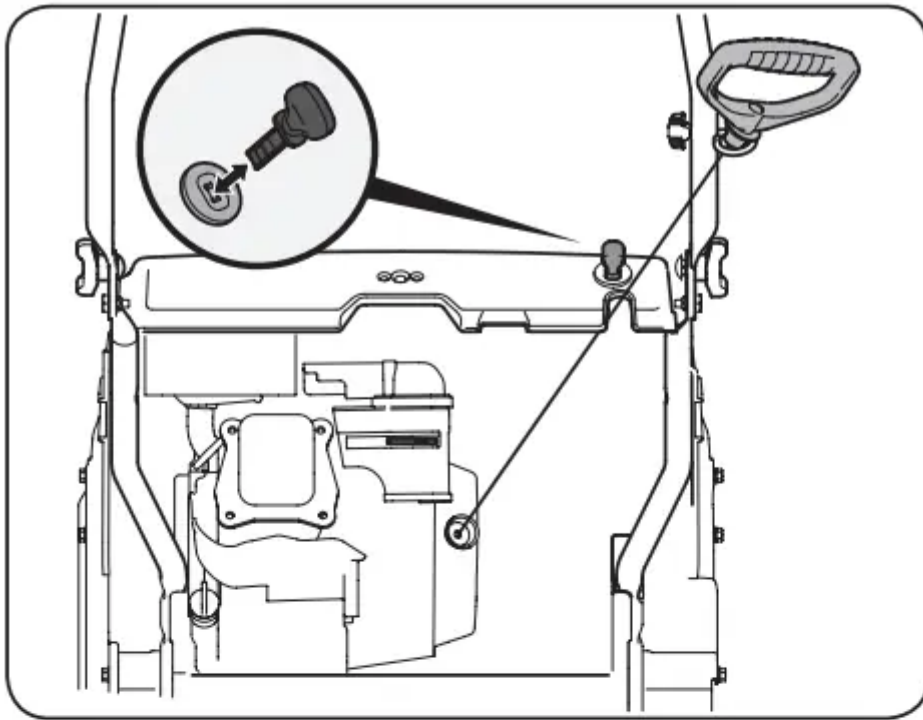
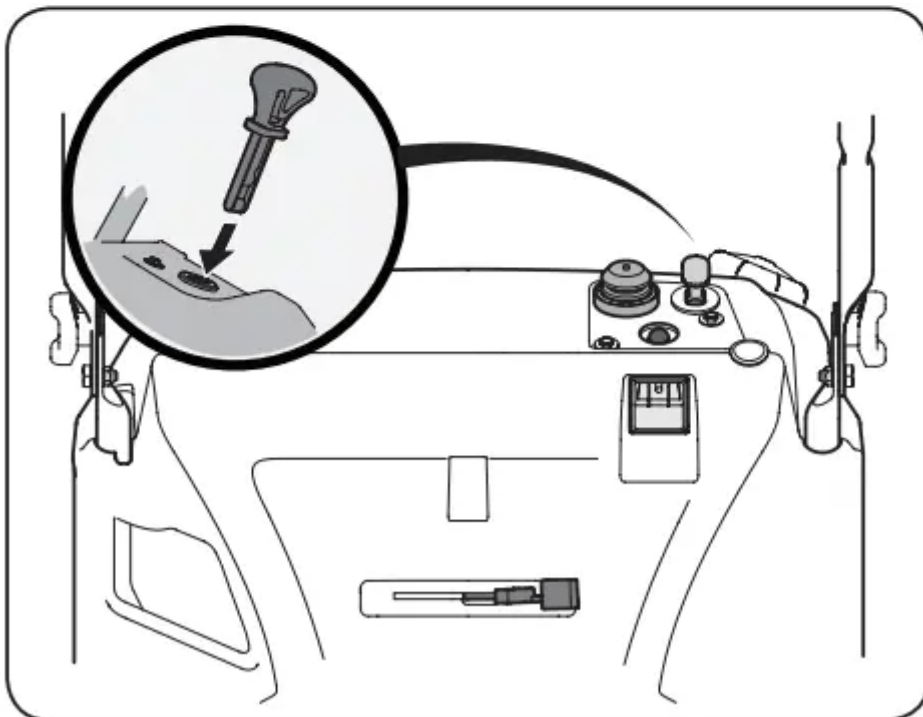

Figure 2
Figure 3
2. Insert ignition key into slot. Make sure it snaps into place. Do not attempt to turn the key. See Figure 2 for models CMXGBAM1054538, CMXGBAM1054539 and see Figure 3 for models CMXGBAM1054540, CMGSB21179.
2. Insert ignition key into slot. Make sure it snaps into place. Do not attempt to turn the key. See Figure 3 for models CMXGBAM1054540 and CMGSB21179. **NOTE:** The engine cannot start unless the key is fully inserted into the ignition switch.